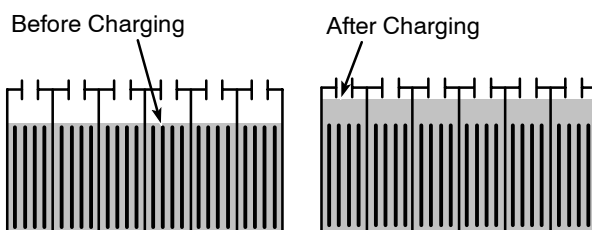

FIG. 65
1. Check battery fluid level frequently to prevent battery damage. The fluid should be at the level shown (Figure 65). Add distilled water if low. DO NOT OVERFILL, the fluid may expand and overflow when charging.